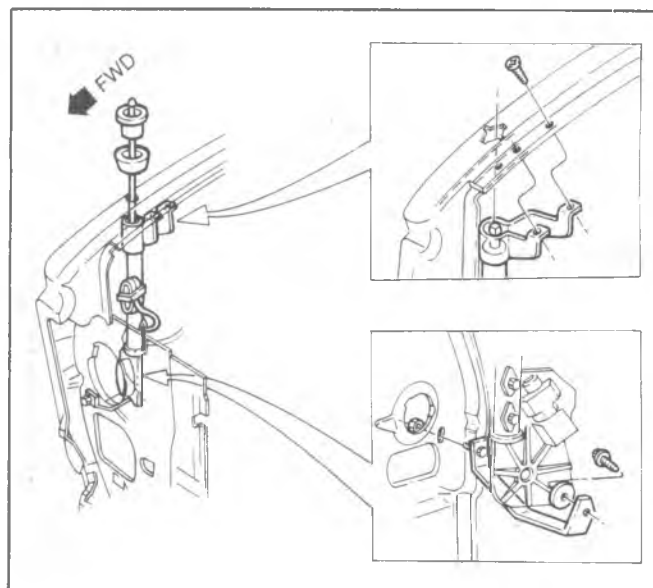

Fig. 9-19R--G Model Power Antenna
**POWER ANTENNA - G MODELS****Replacement (Fig. 9-19R and 9-20R)**